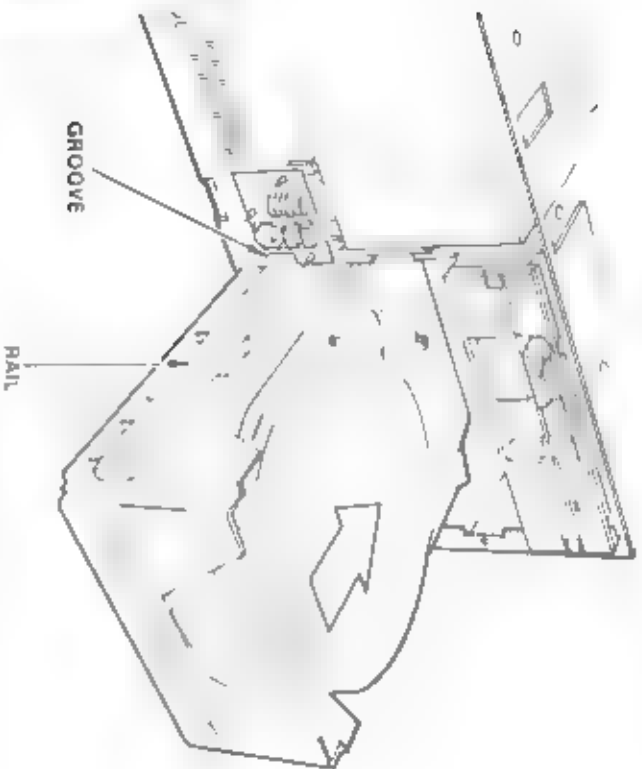

Figure 11-21 Inserting the Fixed-Disk Drive
6. Line up the guide rail on each side of the drive with the groove in the chassis, and slide the drive partway into its slot (Figure 11-21).